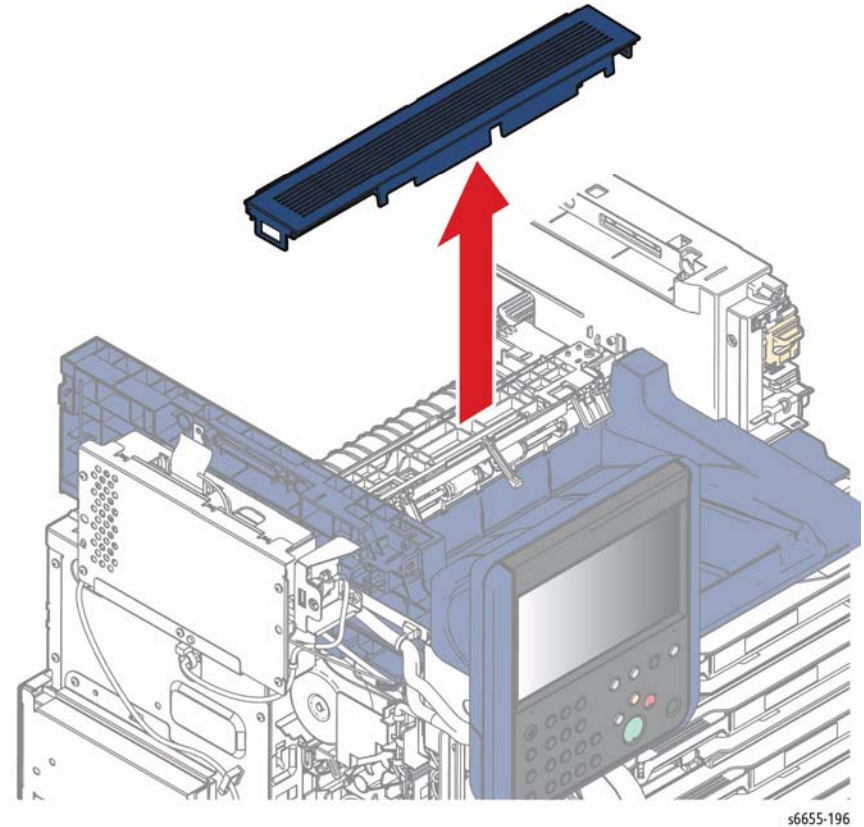

Figure 1 Remove the Top Exit Cover
5. Refer to Figure 1 to remove the Top Exit Cover.